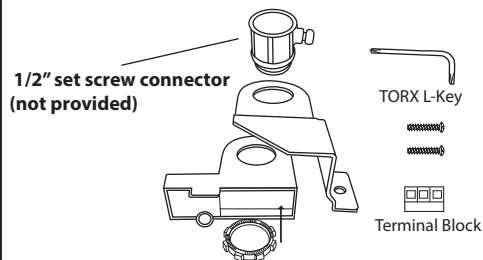

Fig. 65
- Feed wires through conduit adapter assembly. Then connect field wires to terminal block as shown in Fig. 65.